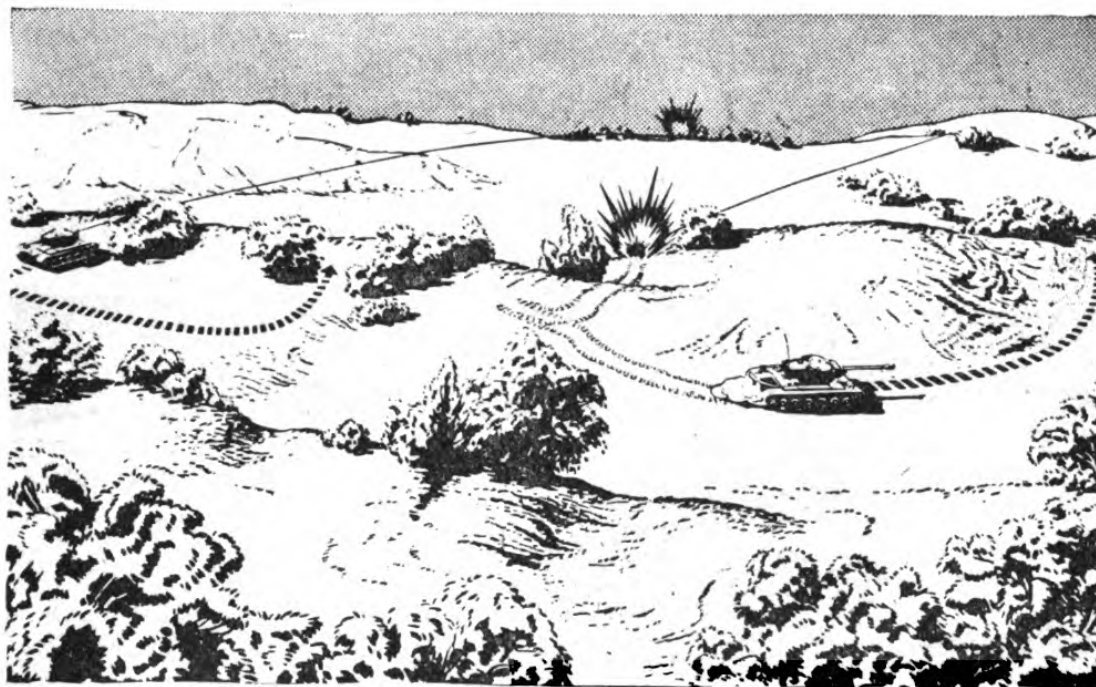

Figure 51. Always select an alternate position and a route to this position so that you can move quickly if fired upon.
41. POSITIONS. Normally, the vehicle commander points out the general location of a firing position into which he wants you to move. This does not mean that you cannot suggest a better firing position in the area than the one he may select. Figures 51 through 56 illustrate the principles of selecting and moving into a firing position.